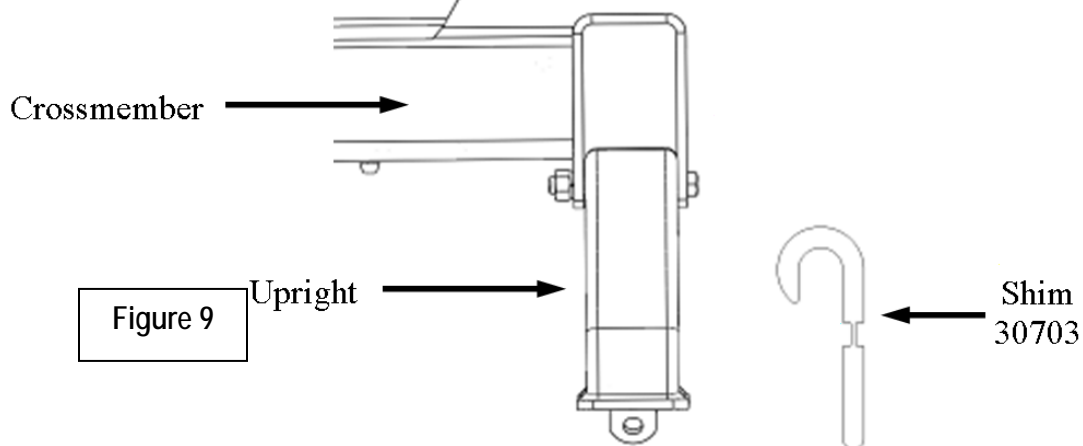

Figure 9
12. Check each rail hitch pin for freedom of movement in the bed rail connection before tightening the 5/8" carriage bolts. Adjust uprights, if necessary, by placing shim 30703 between the upright and the cross member to obtain free pin movement. See Figure 9.